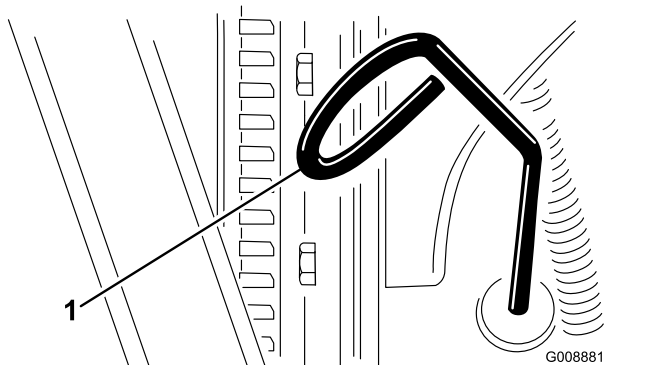

Figure 25
2. Remove the dipstick (Figure 25) and wipe it with a clean rag.